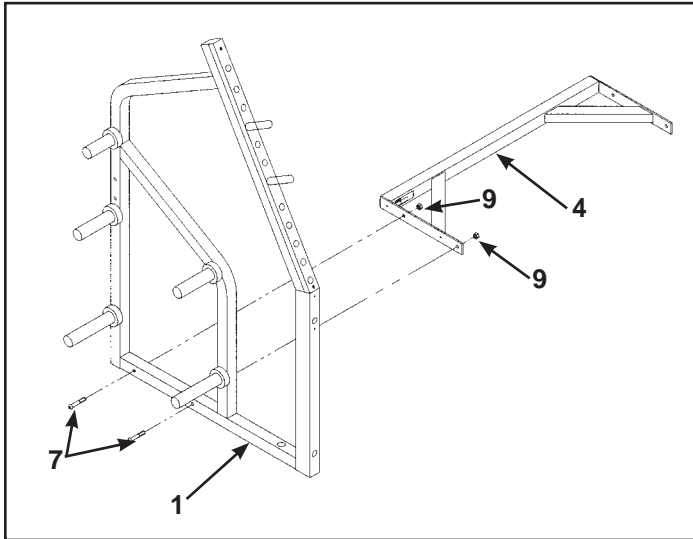

Figure 3
**4. Install lower brace (see steps 4A - 4D and Figures 3 and 4).**
- C. Using two SHCS .50-13 x 3.00 (#7) and two locknuts .50-13 (#9) attach one side of lower brace (#4) to one of the sides (#1 or #2) as shown in Figure 3. Do not tighten hardware at this time.